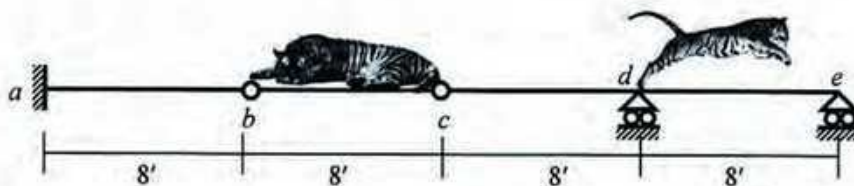

Fig. 7
7. For beam $abcde$ shown in Fig. 7 carrying loads of Fig. 5(a), 5(c), use *Singularity Functions* to calculate